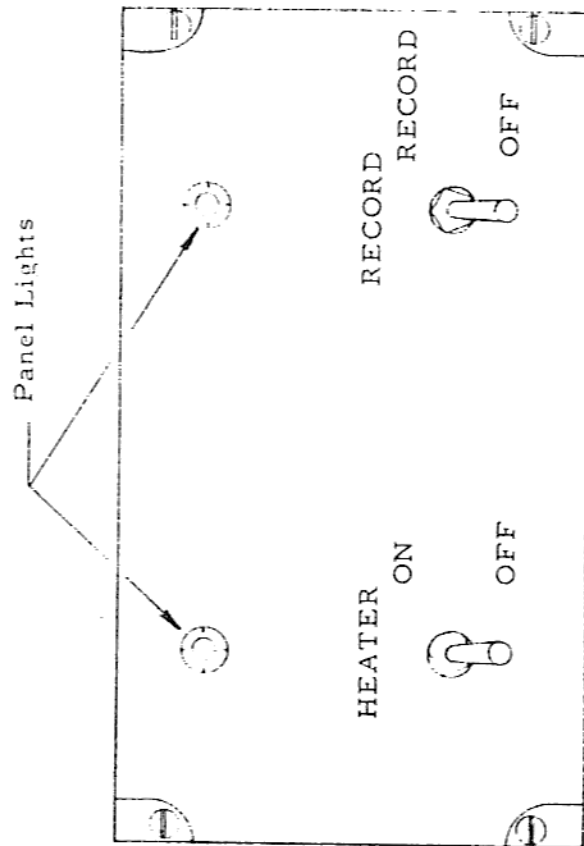

Figure 2-4. Type II Control Panel
- 2-6. The control panel for the Type II package is shown in Figure 2-4. The control panel is located on the left cockpit console, and occupies an area approximately 6 inches by 3 inches.